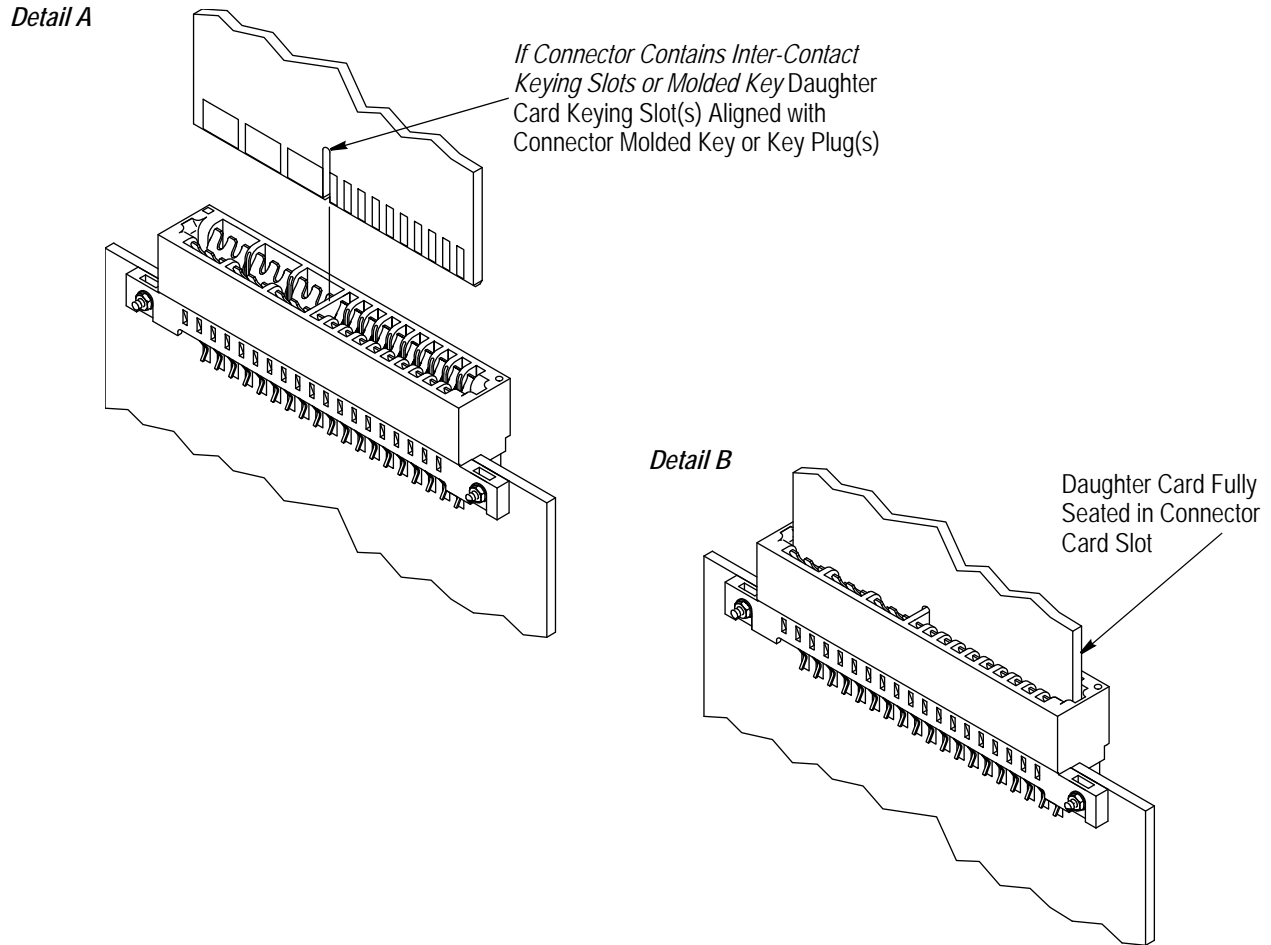

Figure 15
1. If the connector contains inter-contact keying slots or molded key, the keying slot of the daughter card must be aligned with the molded key or key plug(s) (if used) of the connector. Refer to Figure 15, Detail A.
2. The daughter card must be inserted straight into the connector card slot until the card is seated. Refer to Figure 15, Detail B.